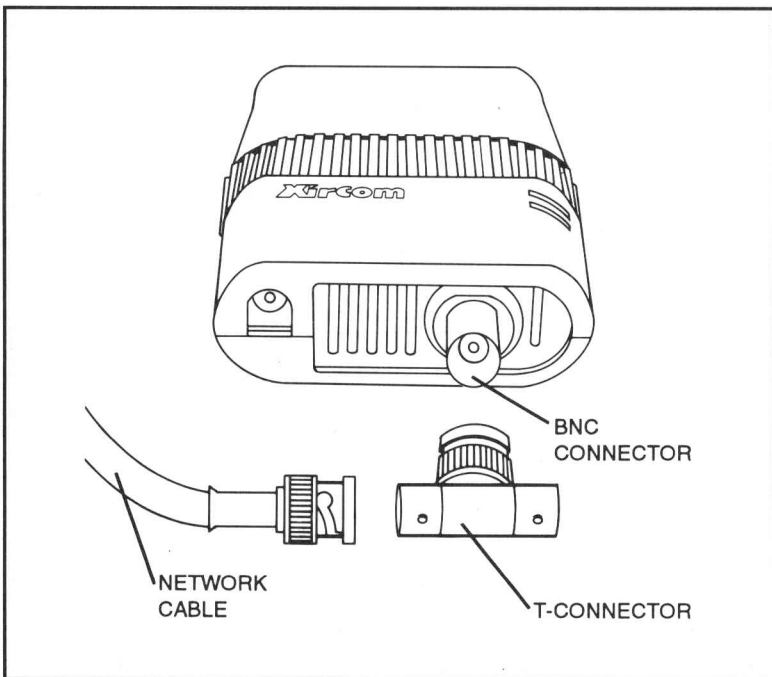

Figure 3. Attaching the Thin Ethernet Cable to Model PE2-10B2
1. Attach the T-connector (and thin Ethernet network cabling) to the BNC connector on your Pocket Ethernet Adapter II as shown in Figure 3.